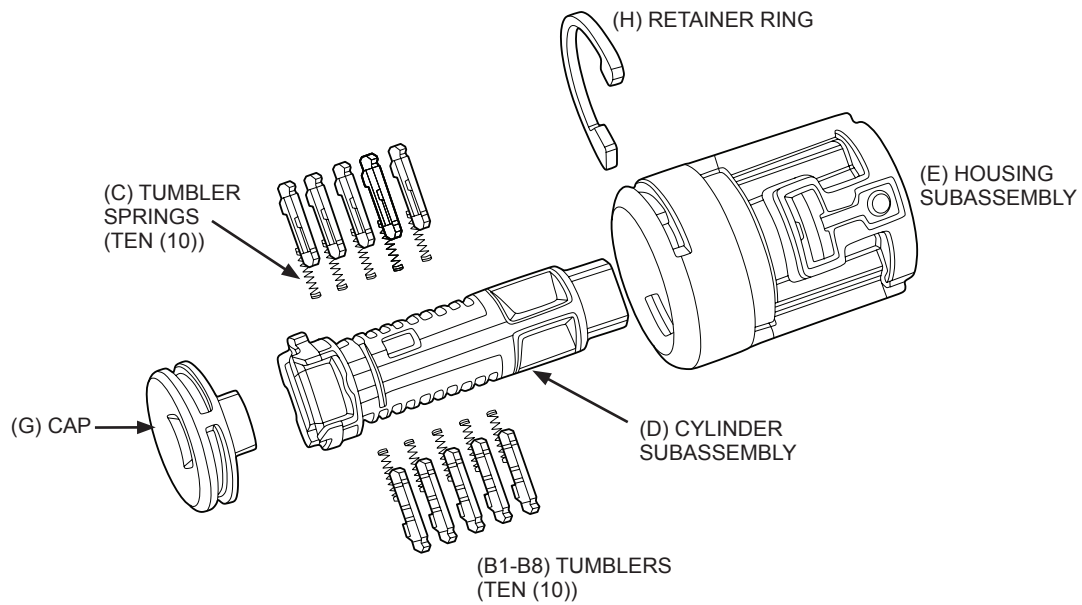

FIGURE 2
- Insert one Tumbler spring (C) into each of the holes located at the end of the tumblers wards on the lock Cylinder subassembly (D) top side (Refer to Figures 2 and 3).
4. Insert the required Tumblers (B1-B8) into the tumbler slots (top-side) in the proper orientation (Refer to Figures 2 and 3), and in the sequence that match the key cut depths for stations 1 through 10.
5. While holding down the Tumblers, turn the Cylinder subassembly (D) and repeat steps 6 and 7 for the bottom side (Refer to Figures 2 and 4)